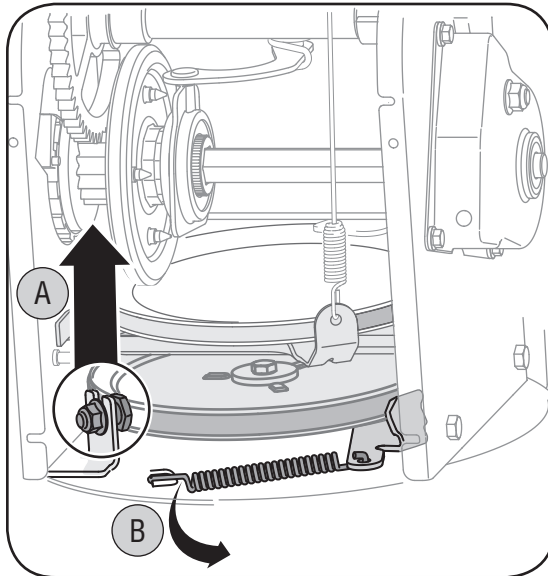

Figure 24
3. With the drive control engaged, the friction wheel must contact the drive pulley. Refer to Figure 24 on page 18.
2. **Hex Gear Shaft:** Once a season, lubricate the hex shaft with a penetrating oil, but not grease. Refer to Figure 24 on page 18.
2. a. Turn the shoulder screw a half a turn and slide it out of the mounting bracket. See Figure 24.
b. Unhook spring to release tension on the auger belt. See Figure 24.